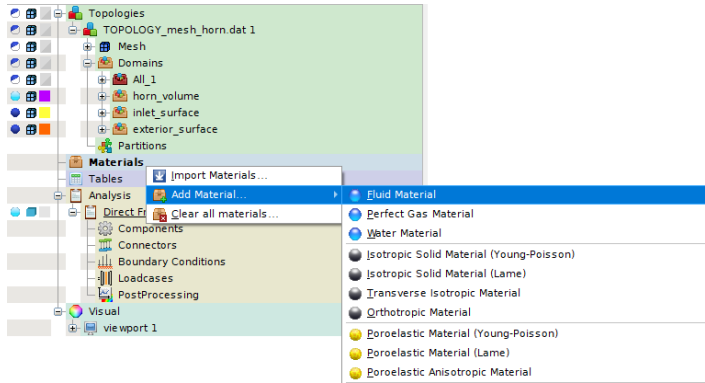

Figure 6.12: Add a new fluid material
- Right-click on the "Materials" item and choose "Add Material..." in the contextual menu, then choose "Fluid Material" (Figure 6.12);